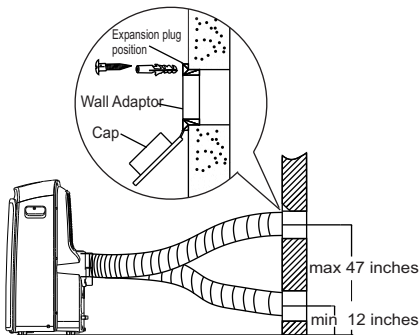

Fig. 18
1. Prepare a hole in the wall and install the Wall Adaptor to the opening (from outside). Secure with 4 expansion plugs and screws. (Fig.18)